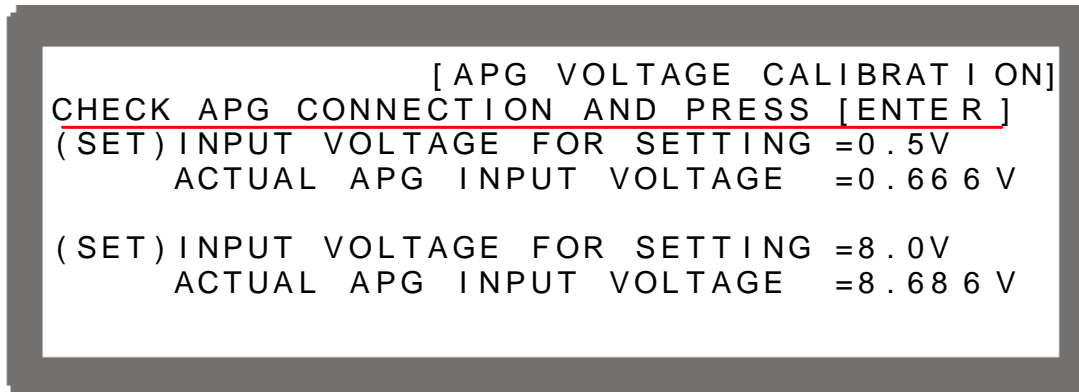

Figure 3-114
- (1) In the CALIBRATION page, press “4” or turn “Rotary” (⊙) knob to set CHOICE = 3.
- (2) Press “” to confirm entry into APG Voltage Calibration options as Figure 3-114 shows.